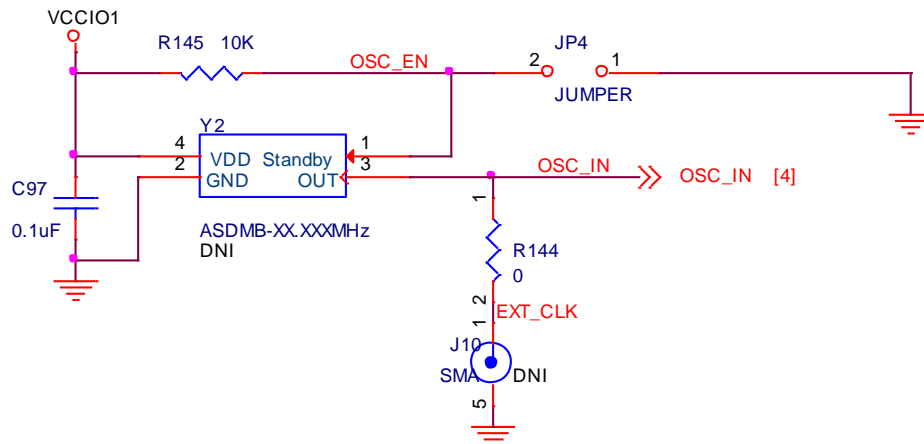

Figure 4.1. Optional Clock Circuit Design
- The board provides for an optional clock input for the MachXO3 from either the Oscillator (Y2) or the SMA header (J10) as shown in Figure 4.1. Neither of them are populated.